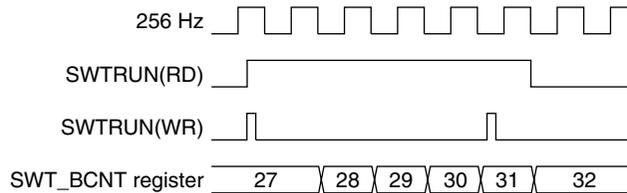

Figure 16.5.2 Run/Stop Control Timing Chart
- The timer switches to Run/Stop status synchronized with the 256 Hz signal falling edge after data is written to SWTRUN. When 0 is written to SWTRUN, the timer stops after counting an additional “+1.” 1 is retained for SWTRUN reading until the timer actually stops. Figure 16.5.2 shows the Run/Stop control timing chart.